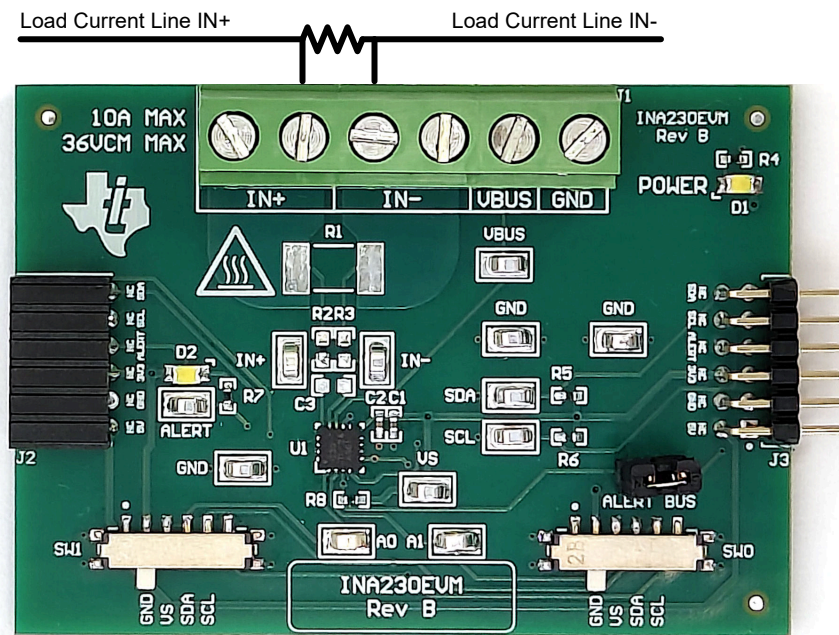
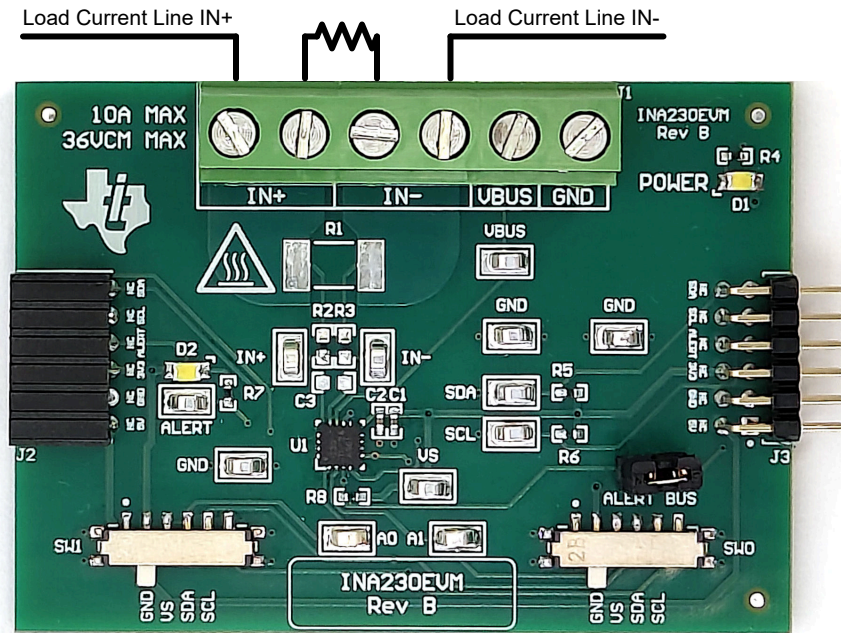

Figure 2-3. IN+ and IN- Wiring for More Than 10A
Figure 2-4. IN+ and IN- Wiring for 10A or Less
- b. Connect an external shunt across the IN+ and IN- terminals of J1, preferably across pins 4 and 5, as shown in Figure 2-3 and Figure 2-4.
- a. When measuring more than 10A, make sure the high current path does not go through the EVM (including the terminal block J1), as shown in Figure 2-3.
- b. When using 10A or less with either an onboard or external shunt, the current path can be passed through the EVM. Figure 2-4 shows a convenient way to use the multiple IN+ and IN- terminals with an external shunt for this use case.